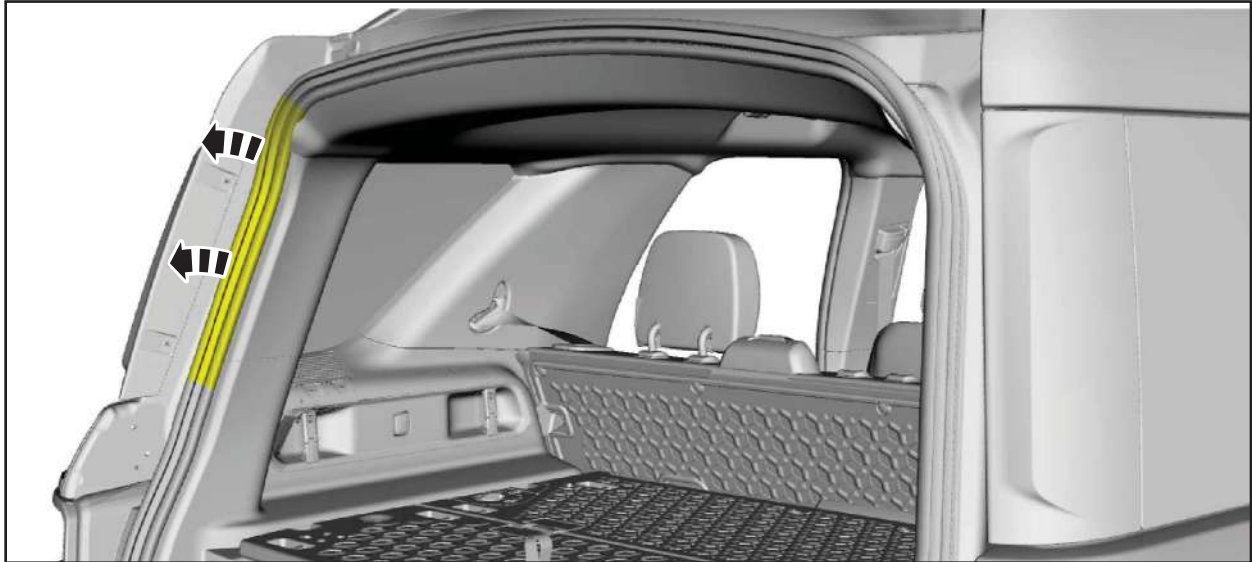

FIGURE 11
11. Position the LH portion of the liftgate weatherstrip aside. See Figure 11.